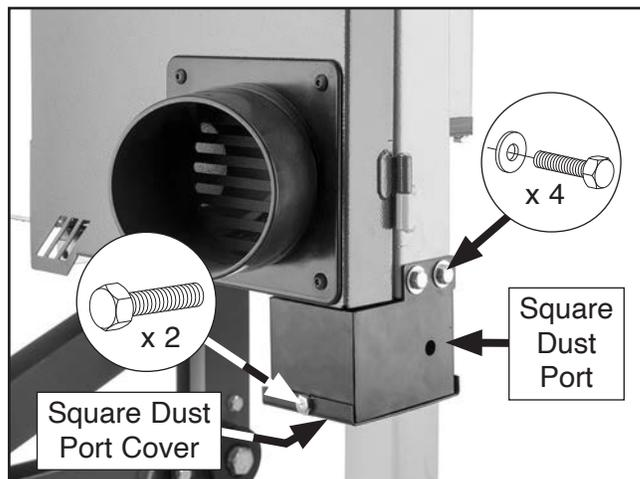

Figure 48. Square dust port and cover attached to saw head.
- 52. Attach square dust port to saw head with (4) M6-1 x 10 hex bolts and 6.4 x 16 x 1.2mm flat washers (see **Figure 48**).
- 53. Attach square dust port cover to square dust port with (2) M6-1 x 10 hex bolts (see **Figure 48**).